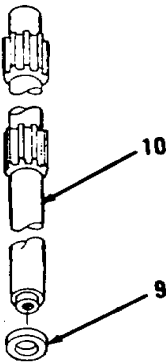

Figure 5-122.
- 11. Inspect washer (9, Figure 5-122). Replace if cracked, broken, worn, grooved or scored.
- 12. Using suitable puller, remove washer (9), if necessary, from shaft (10).
- 1. Using suitable driver and hammer, install new washer (9, Figure 5-122), if removed, to right side of tandem drive housing.
- 2. Install shaft (10). Align splines of shaft (10) with splines in final drive and differential.